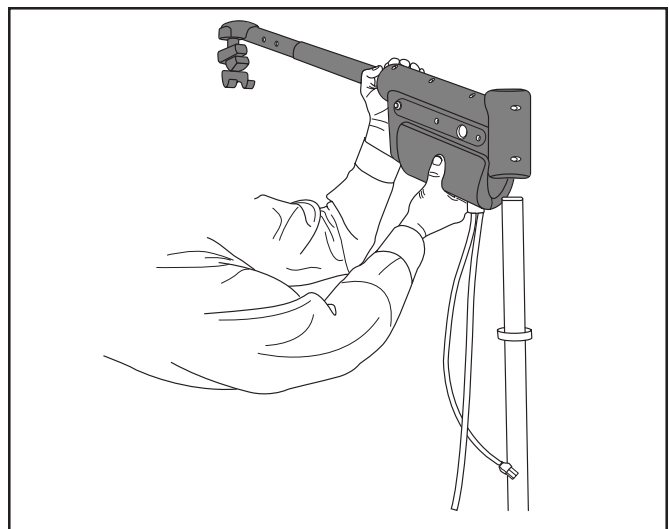
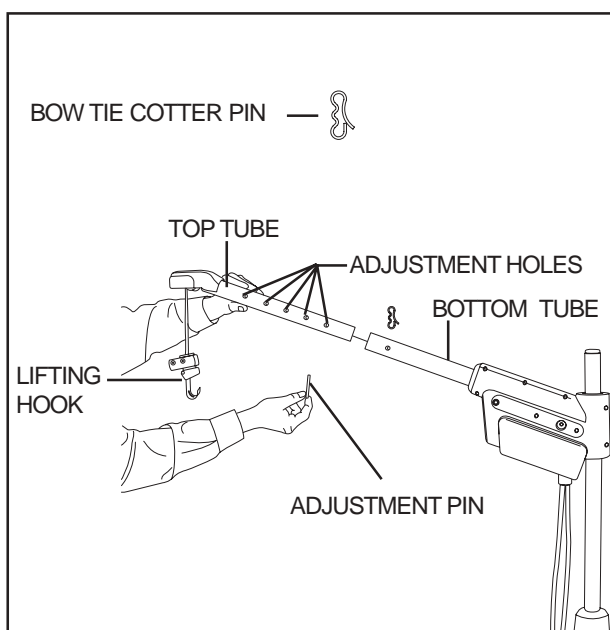

Figure 6. Motor Housing Installation
Figure 8. Boom Arm Adjustment
4. Lower the motor housing over the upper post until it rests on the split ring collar. **See figure 6.**
You may need to adjust the height of the motor housing (see figures 6 and 7) or the length of the boom-arm (see figure 8) so the boom arm can swing freely without hitting at any point inside the vehicle.
Before adjusting the boom arm, lower the lifting hook about 12 in. (30 cm). This will provide enough slack in the strap to enable the adjustable portion of the boom arm (top tube) to be pulled out of the bottom tube to its farthest adjustment hole. See **figure 8**.